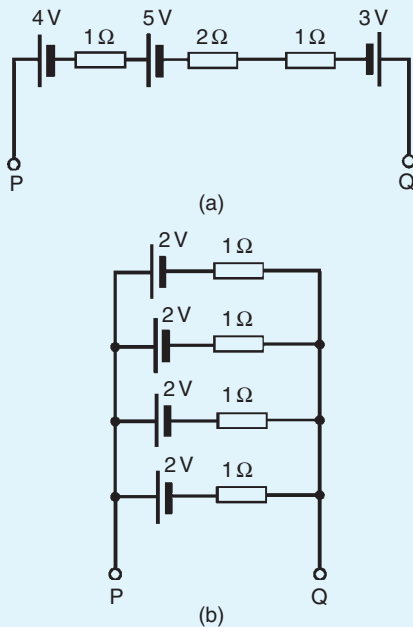

Figure 4.5
6. For the circuits shown in Fig. 4.5 the resistors represent the internal resistance of the batteries. Find, in each case: